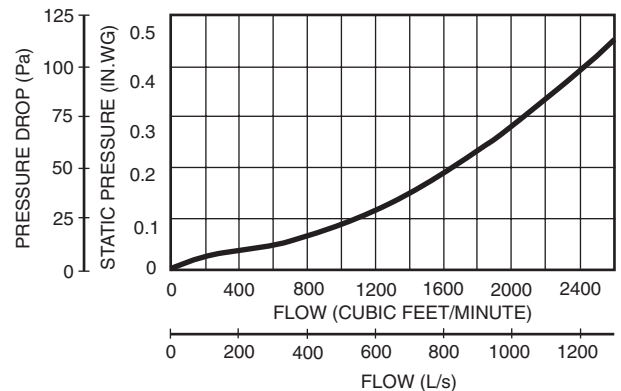

Fig. 41 — EconoMi\$er Barometric Relief Capacity
6. See Fig. 41 for barometric relief damper characteristics.